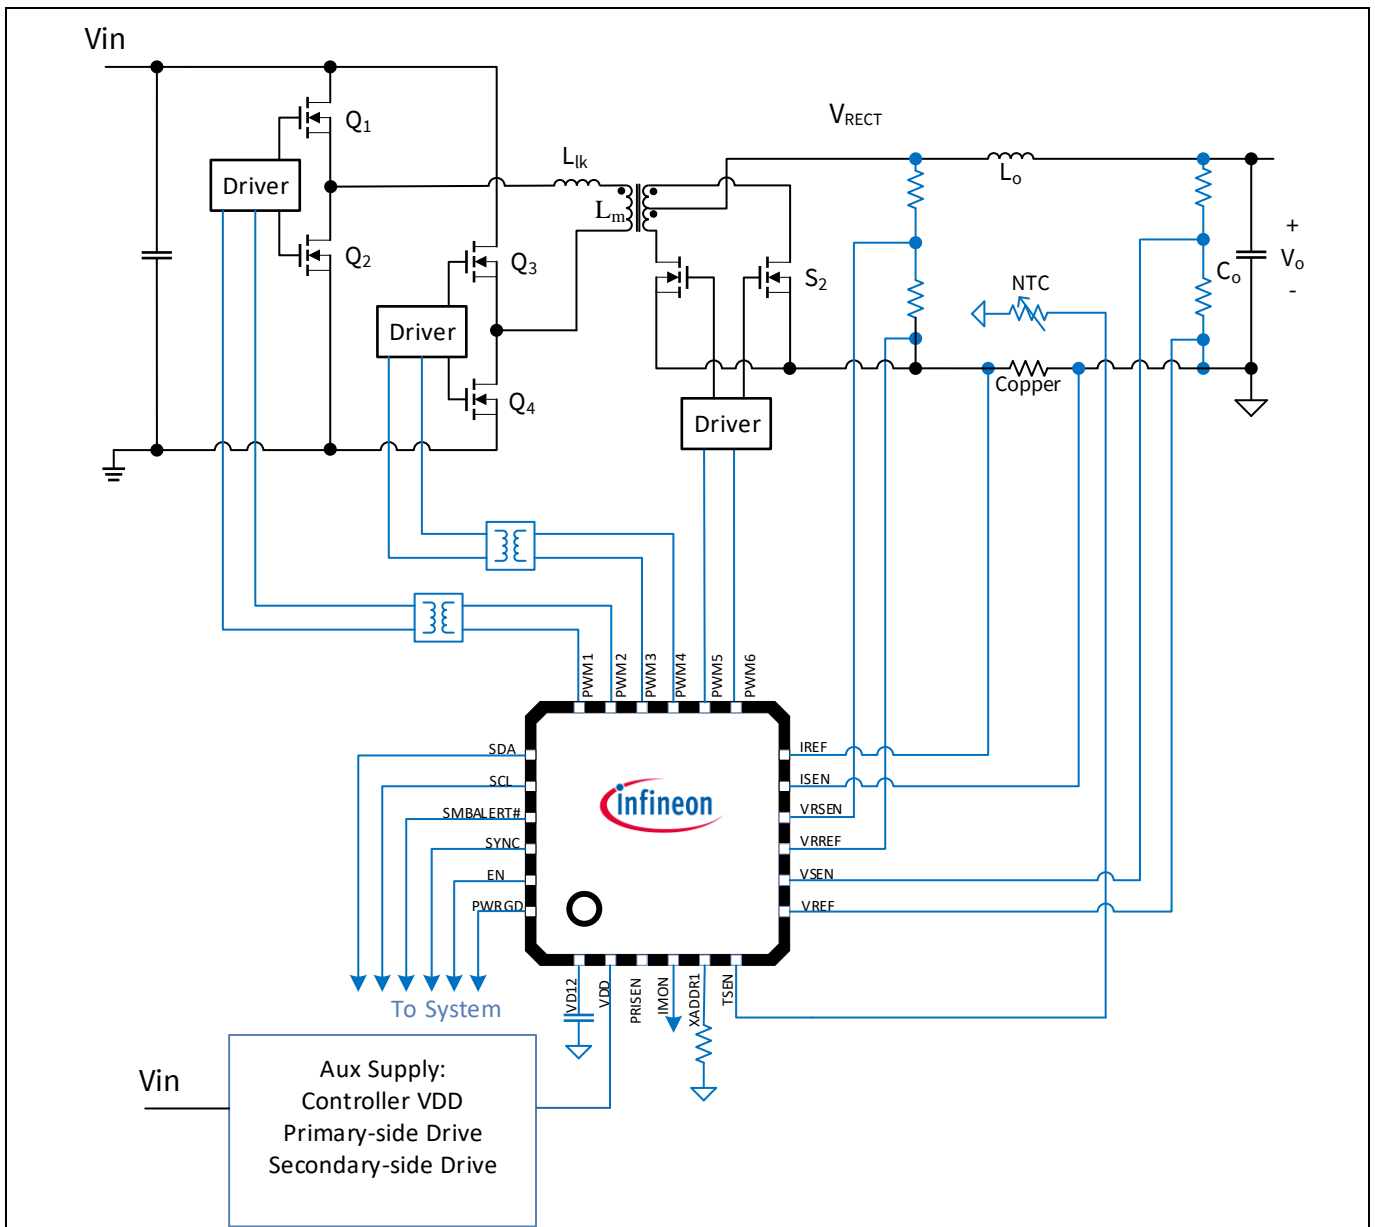

Figure 15 XDPP1100 FBCT VMC
Figure 15 is a typical isolated FB converter with center-tap (CT) rectifier using the XDPP1100-Q024. The VSEN is used for output voltage V_{OUT} sensing, and the VRSEN is used for V_{RECT} voltage sensing. The differential input sense enables routing the sense and reference voltage in pairs to minimize common mode noise.